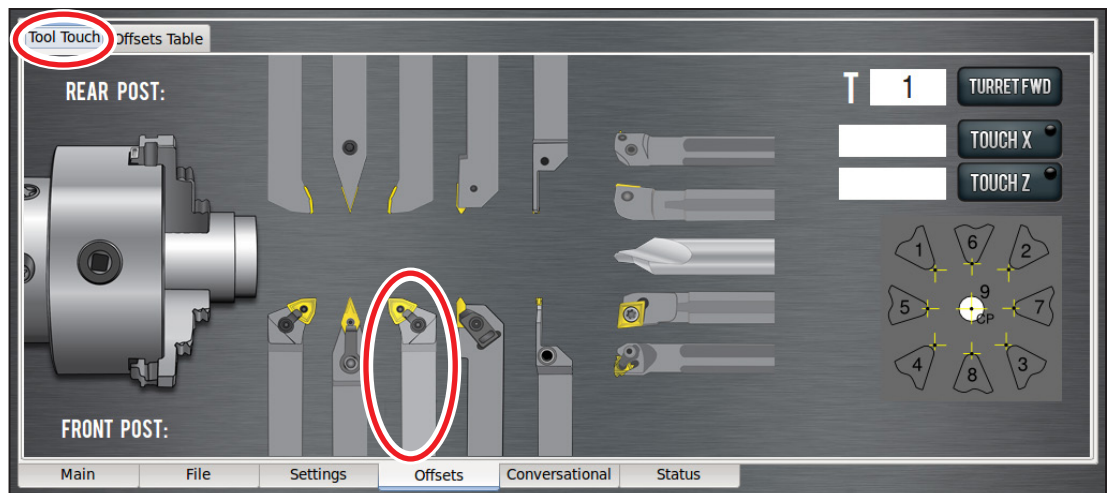
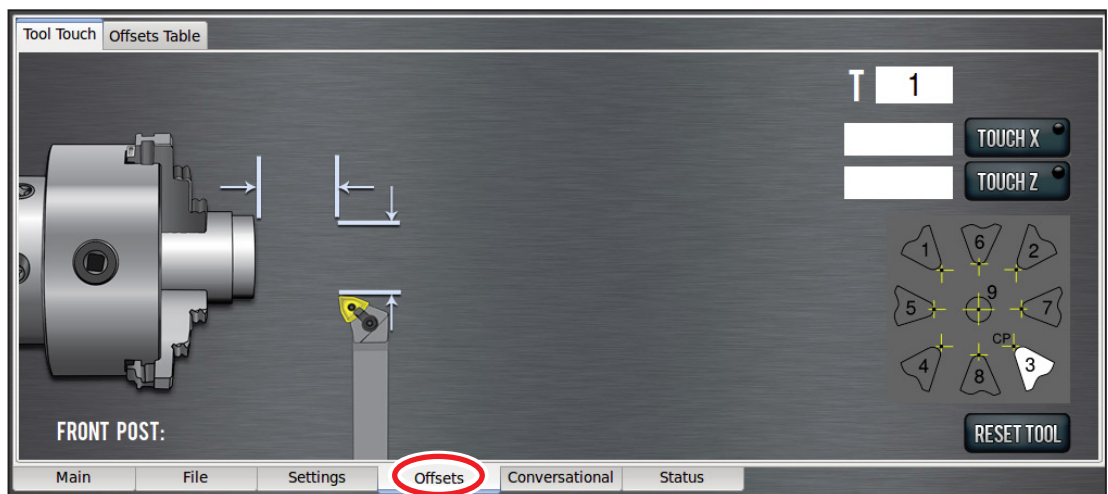

Figure 4.11
Figure 4.12
The actual method differs depending on whether you have a gang, turret, or quick change tooling setup. For the purposes of this instruction, we assume you have the quick change setup and that you have adjusted your quick change tool holders to centerline height. Make sure that there are no tool geometry offsets currently applied by clicking *Reset Tool* on the *Offsets* screen (see **Figure 4.12**), which clears the geometry offsets for the currently loaded tool. If the *Offsets* screen displays a selection of tools (see **Figure 4.11**), this indicates no tool offsets have been applied.
- Click on the *Tool Touch* tab on the *Offsets* screen and select the front tool post, right-hand turning tool (see **Figure 4.11**).
NOTE: Select the rear tool post right-hand turning tool for use with a turret; the next touch off screen is shown in **Figure 4.12**.
5. You should see the tool type selection screen again (see **Figure 4.11**). Select the front tool post parting tool (unless using a rear tool post parting tool, in which case you should select the rear tool post parting tool).